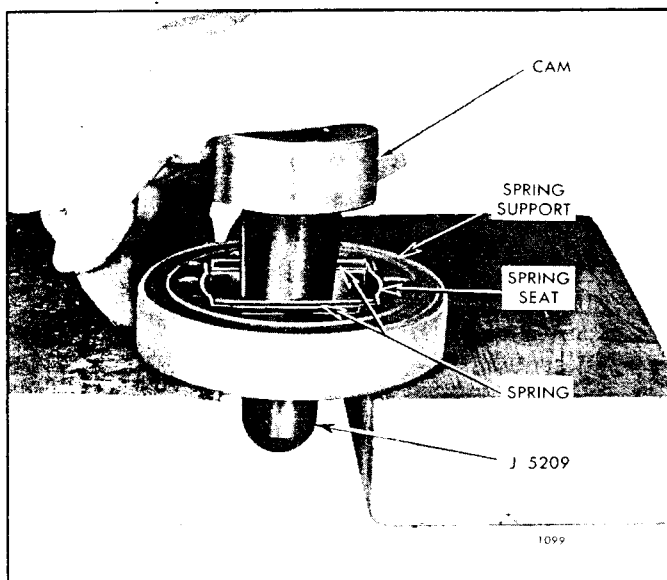

Fig. 17 - Inserting Cam in Blower Drive Support
- a. Place the drive spring support on two blocks of wood (Fig. 17).